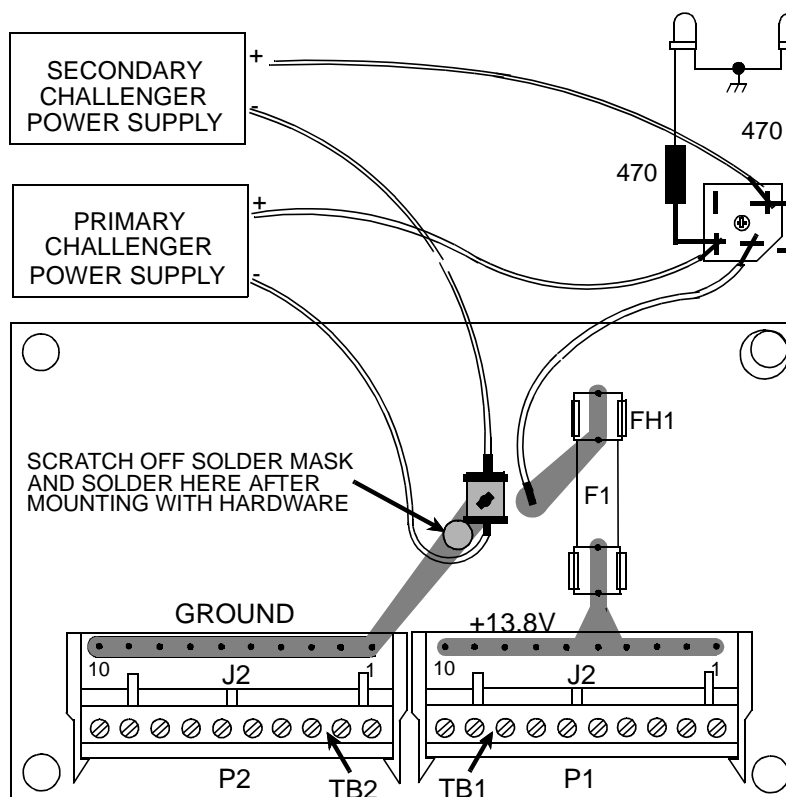

Figure 9-2 RECEIVER SITE REDUNDANT KIT
11. Two green LEDs are provided for power supply operation indicators. Early shelves do not have holes in the front panel and must be drilled to accommodate these LEDs (see Figure 9-2 for wiring details).